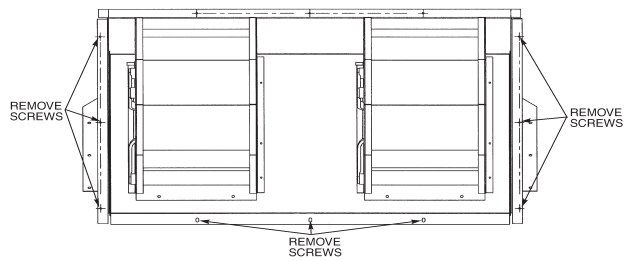

Fig. 22 – Power Exhaust or Barometric Relief Damper Mounting Details
1. Remove 9 screws holding each damper assembly in place. (See Fig. 22.) Each damper assembly is secured with 3 screws on each side and 3 screws along the bottom. Save screws.